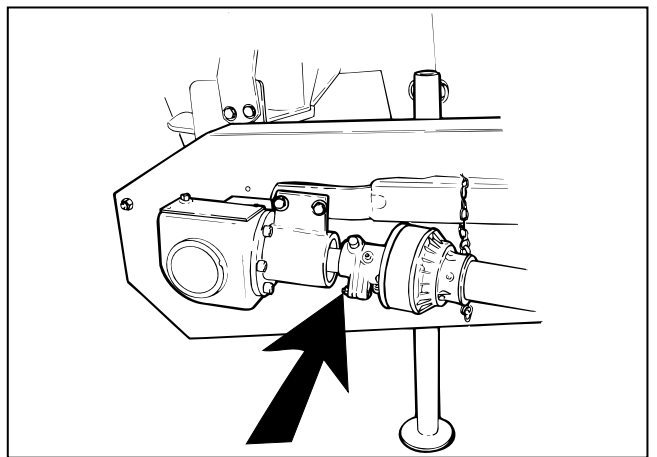

Fig. 21
**FIG. 21** The PTO-shaft of the conditioner is fitted with securing bolt **C**, which breaks by overloading of the conditioner. If driving without the conditioner for a long time the gearbox must be dismantled (3 Allen screws).